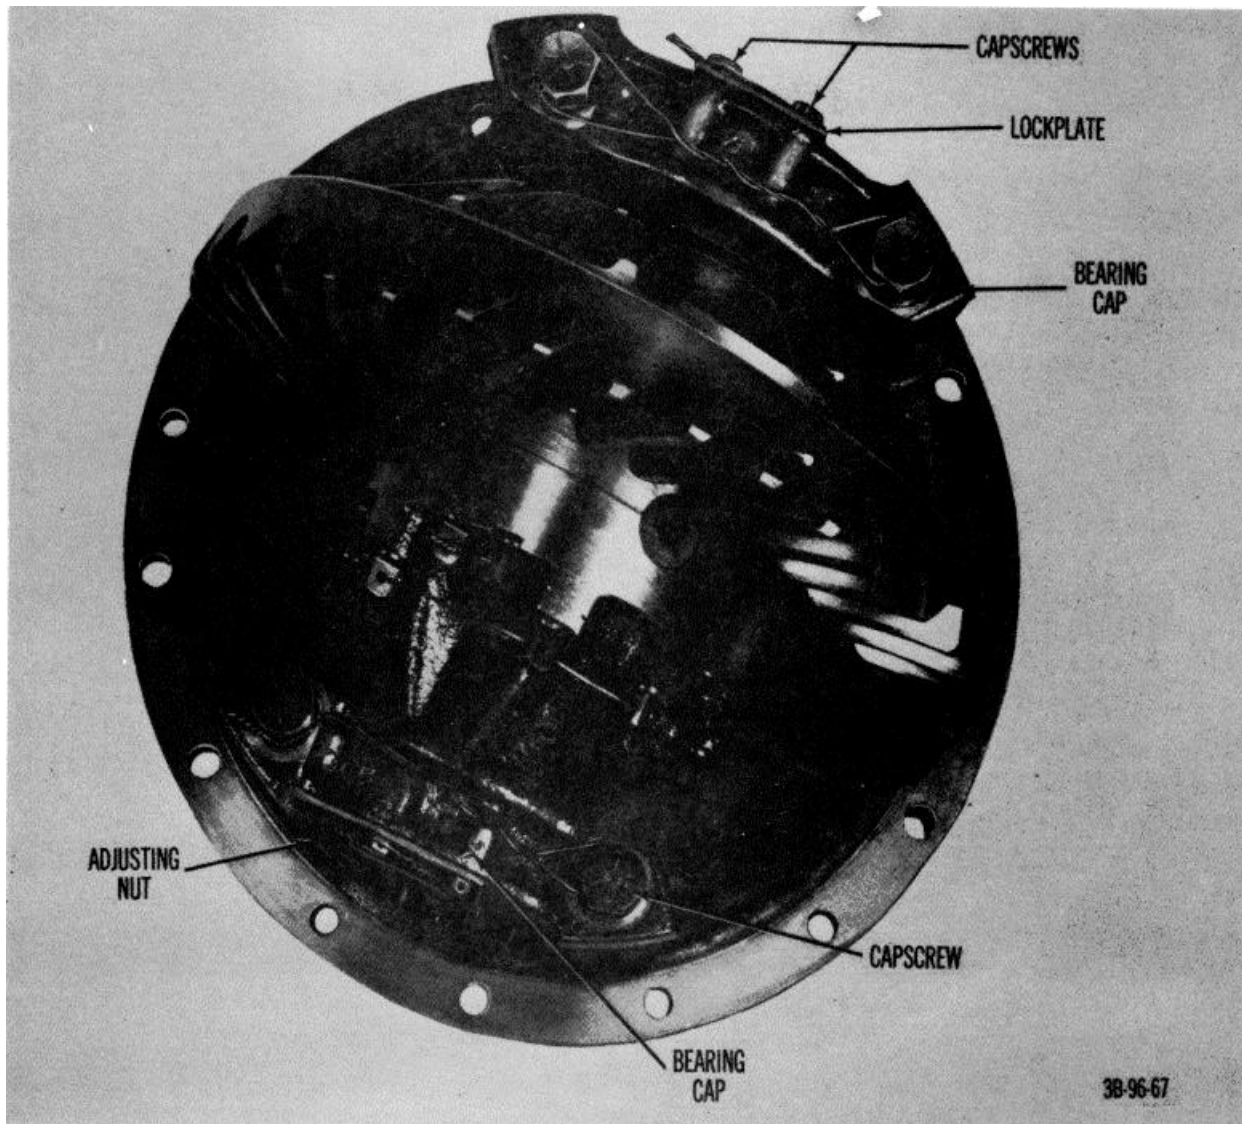

Figure 79. Differential assembly showing bearing caps.
- (1) Remove safety wire from capscrews (fig. 79) that secure adjusting ring lock plate (fig. 79) and remove capscrews and lock plates on both sides of differential
- (2) Mark bearing caps (fig. 79) for correct reassembly.
- (3) Cut safety wires and remove capscrews and bearing caps (fig. 79) from housing.
- (4) Remove adjusting nuts (fig. 79) from each side of housing.
- (5) Lift out differential and gear assembly from carrier. Punch mark differential ca halves for correct assembly.